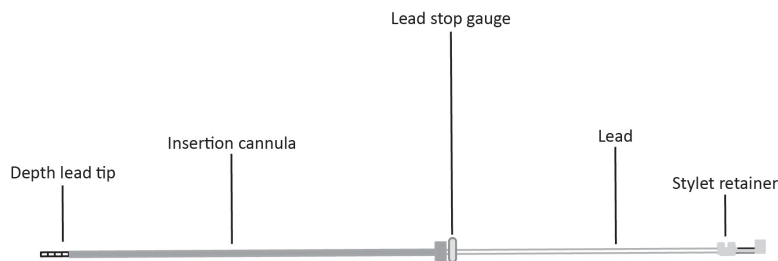

Figure 7: Position the stop gauge directly above the insertion cannula in order to gauge the full insertion distance of the depth lead.
2. Before placing the insertion cannula onto the frame, insert the depth lead into the insertion cannula and place the stop gauge (provided) on the lead directly above the cannula, such that the lead tip will reach the implant target after the lead is fully advanced down the cannula. The stop gauge should meet the top of the cannula once the lead is advanced the desired distance (Figure 7 on page 28).